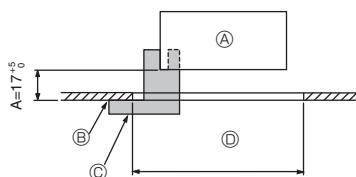

Fig. 9-2
①	Grille	1	950 × 950 (mm)
②	Screw with captive washer	4	M5 × 0.8 × 25
③	Gauge	1	(Divided into 4 parts)
④	Fastener	3
⑤	Screw	4	4 × 8
⑥	Screw	1	4 × 12
⑦	Wireless remote controller	1	for PLP-6BALM, PLP-6BALME
⑧	i-see sensor corner panel	1	for PLP-6BAE, PLP-6BALME
9.2. Preparing to attach the grille (Fig. 9-2)
- With the gauge ③ supplied with this kit, adjust and check the positioning of the unit relative to the ceiling. If the unit is not properly positioned relative to the ceiling, it may allow air leaks or cause condensation to collect.